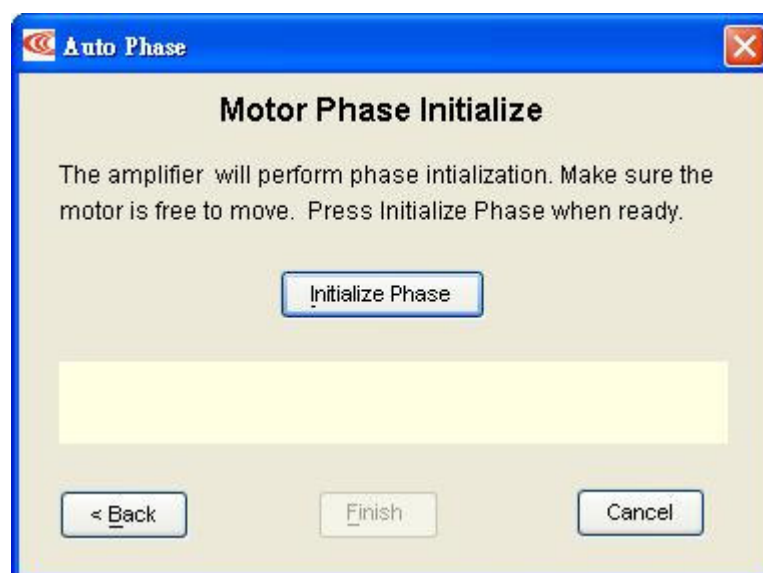

Fig. 16 Motor Phase Initialize
- f. Press Next, and Fig. 16 Motor Phase Initialize appears.